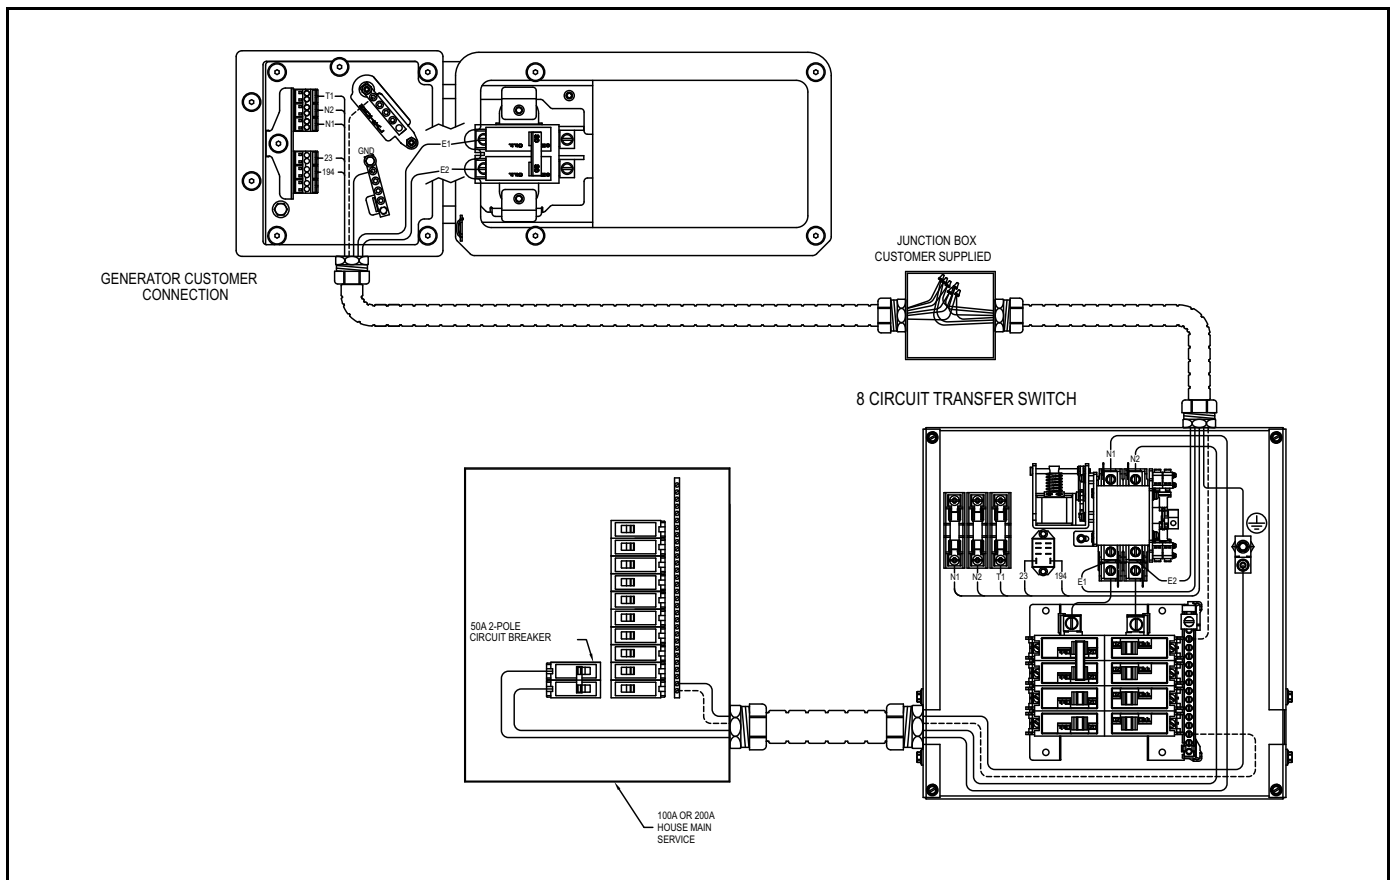

Figure 6-2. Main AC Wiring
3. Install the conduit and Main AC and Control Wires between the generator and the transfer switch (Figure 6-2). Through a NEMA 3 rated external connection box (not supplied).
4. Connect the Neutral wire to the Neutral Lug and torque to the required specification. See Figure 6.2.
5. Connect the Ground wire to the Ground Lug and torque to the required specification. See Figure 6.2.